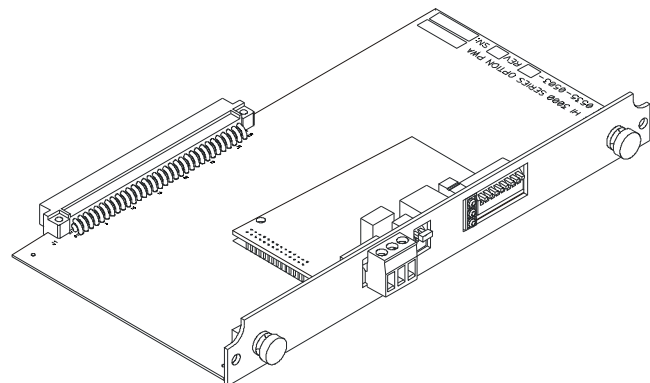

FIG. 4: REMOTE I/O OPTION CARD
Step 1. Position the RIO Option Card with the back plane connector facing Option Slot #0. (See Fig. 4)